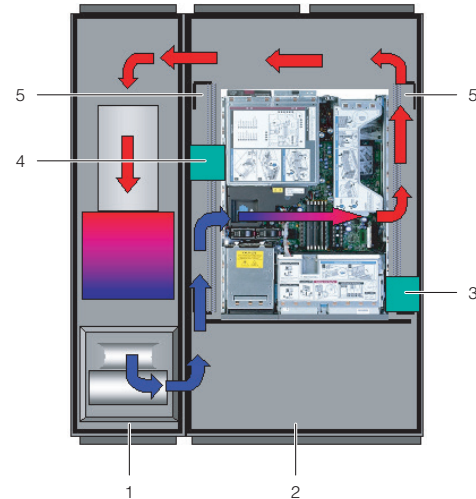

Fig. 23: Placement of foam strips for devices with sideways air throughput (top view) – LCP Rack
- If several devices which require sideways air throughput are included, cut out several pieces of the foam strip, as is appropriate, so that, ultimately, there is a cut-out in the foam to the left or right at the height of each such device in the server rack. Ensure that there are no gaps on the hot air side of the device (Fig. 23, item 3).
- Attach the foam strips to the cold air side of the devices set back towards the rear (Fig. 23, item 4), making sure that all fans built into the devices can draw air and that none of them are blocked.
The foam strips can be attached between the front and rear supports of the server rack along the entire depth of the devices with sideways air throughput (Fig. 23, item 5).